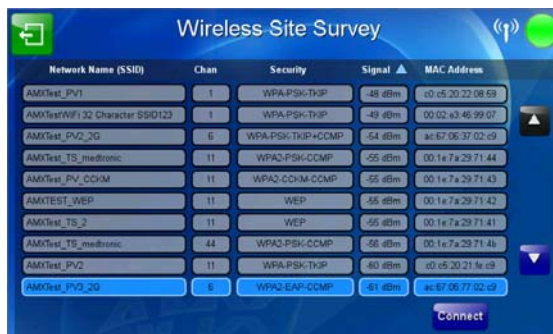

FIG. 26 Wireless Site Survey page
This tool allows a user to “sniff out” all transmitting Wireless Access Points within the detection range of the internal wireless card (FIG. 26). Once the **Site Survey** button is pressed, the device displays the **Wireless Site Survey** page, which contains the following categories:
- Automatically filling it by pressing the **Site Survey** button. From the *Site Survey* page, choosing an AP from within the *Site Survey* page and then pressing the **Connect** button at the bottom of the page (FIG. 26).